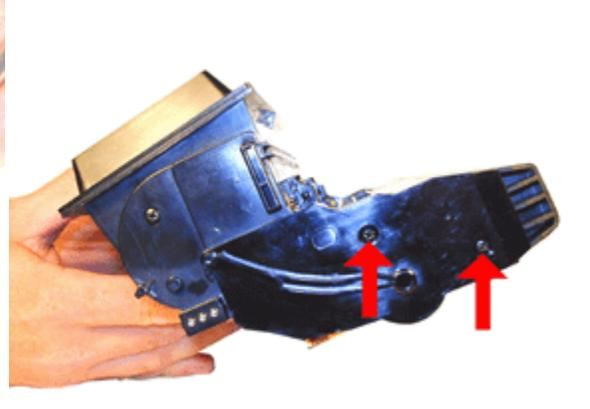

FIGURE 45
40. Install the left side main end cap, and two screws. See Figure 45